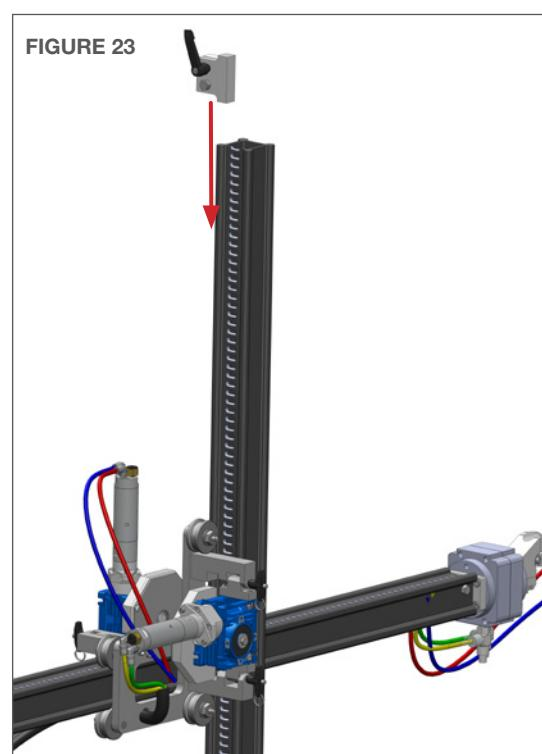

FIGURE 23
20. Slide the BU 152 Rail Stop onto the top of the Vertical Rail and tighten the Quick Release Lever so that it faces up and away from the Carriage Assembly as shown in **(Figure 23)**